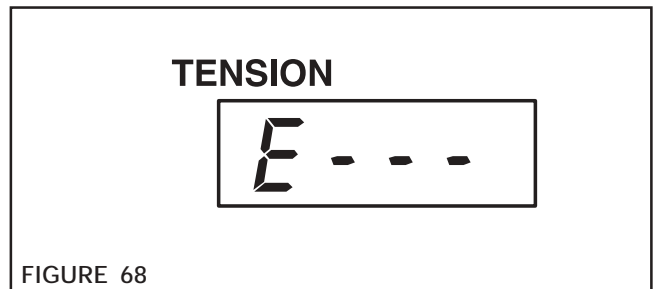

FIGURE 68
When an error (E) is indicated, the zero adjustment cannot be completed (See Figure 68). Probable causes for Zero Error include: